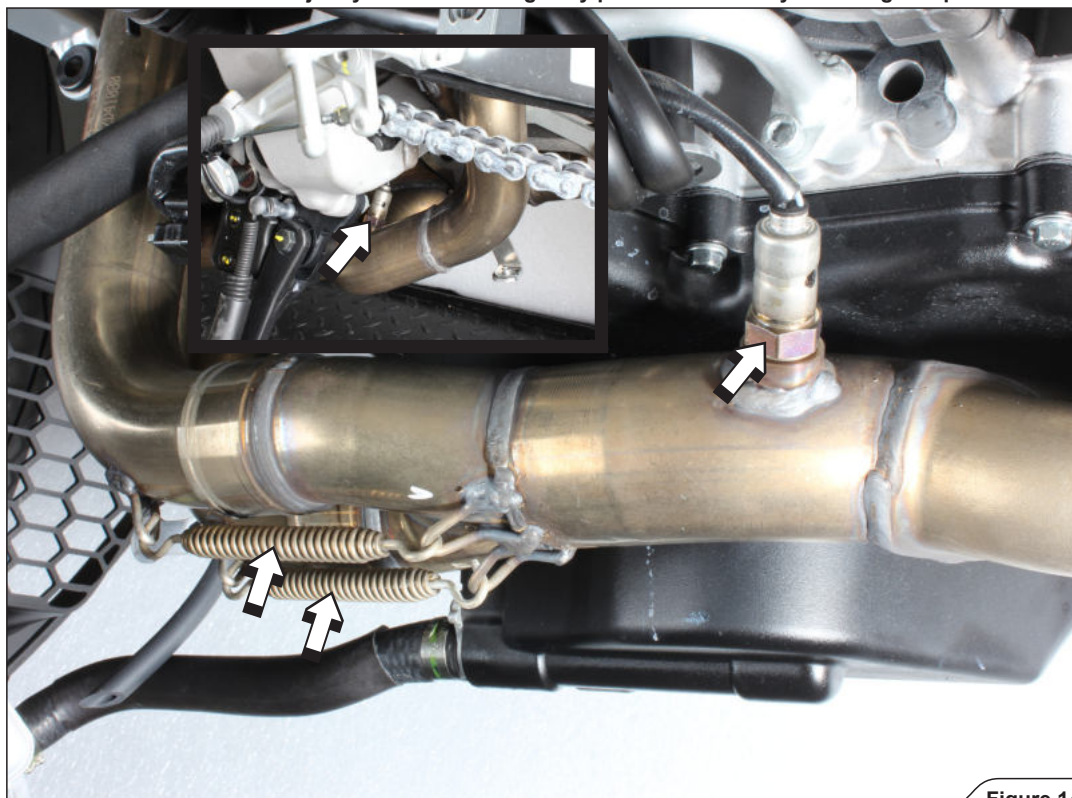

Figure 14
- Unscrew both lambda sensors, unhook the marked springs and carefully remove the collector off the motorcycle (Figure 14).